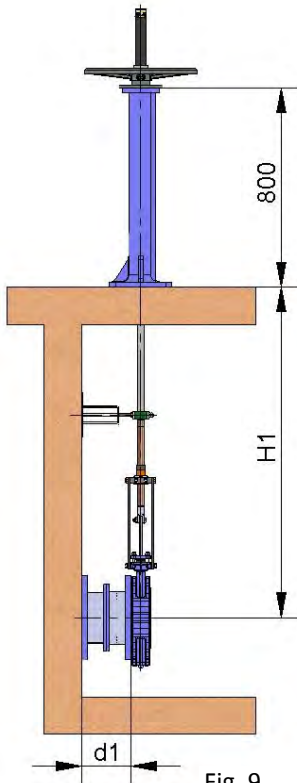

Fig. 9
- The standard floor stand is 800mm high (Fig. 9). Other floor stand measurements available on request.